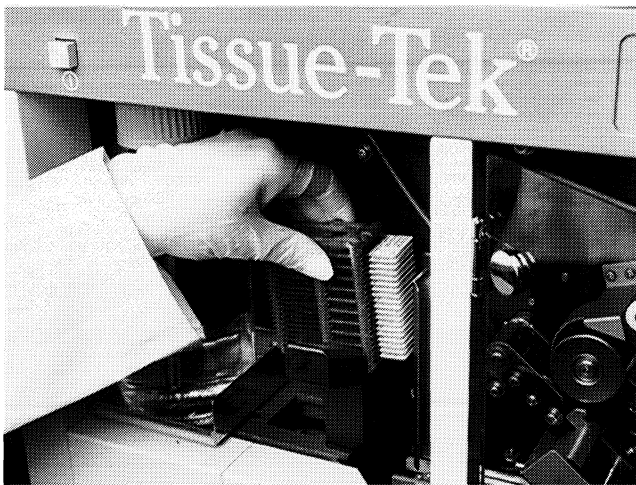

Figure 4-5
7. Load into the loading channel the first basket filled with slides to be coverslipped (Figure 4-5). The "UP SIDE" faces up, and the guide pin inserts into the groove of the loading channel.